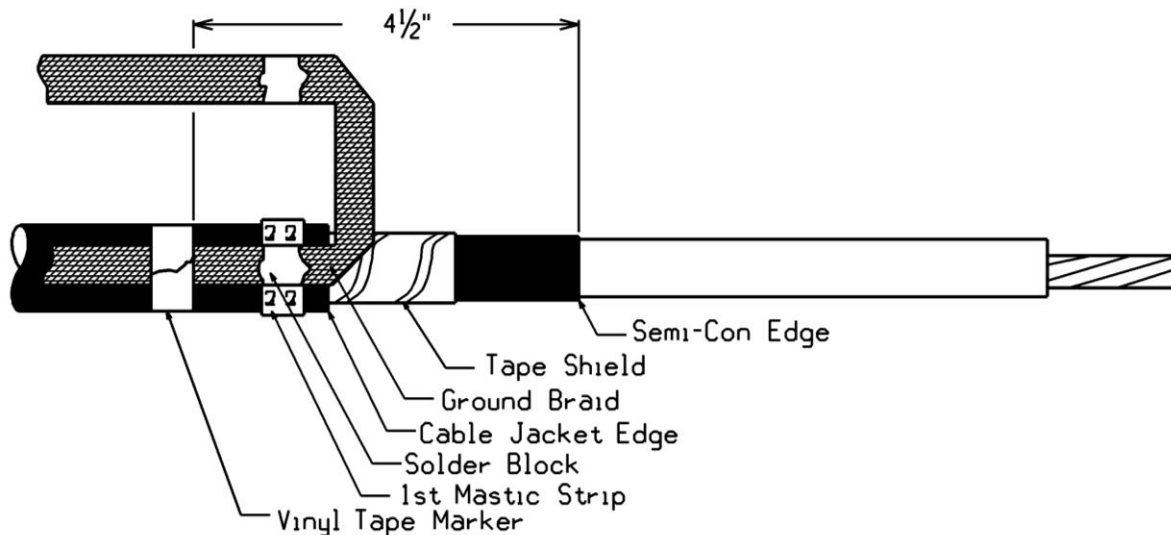

Figure 7
2. Position pre-formed "U" shaped ground braid over tape shield directly adjacent to the cable jacket cut edge. The long tails should extend over the cable jacket, with the solder block of one tail positioned over the mastic. Secure this tail to the cable jacket with a vinyl tape marker, located $4\frac{1}{2}$ inches from the edge of the cable semi-con. See Figure 7.